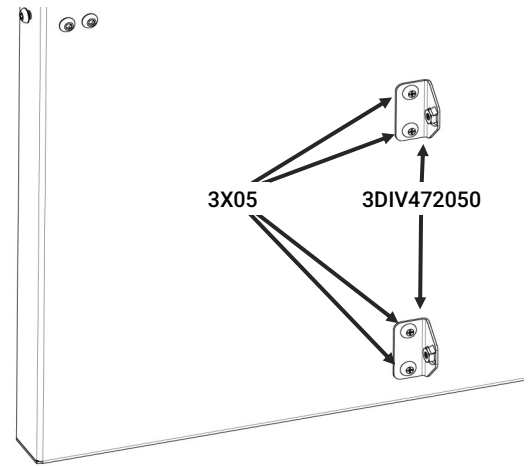

Figure 2
1. Using a #3 Phillips screwdriver and a 7/16" wrench, install the (2) Lower Divider Brackets [3DIV472050] with (4) [3X05A] 1/4-20X7/8" screws and (4) [3X612] 1/4-20 black whiz nuts (Fig 2).